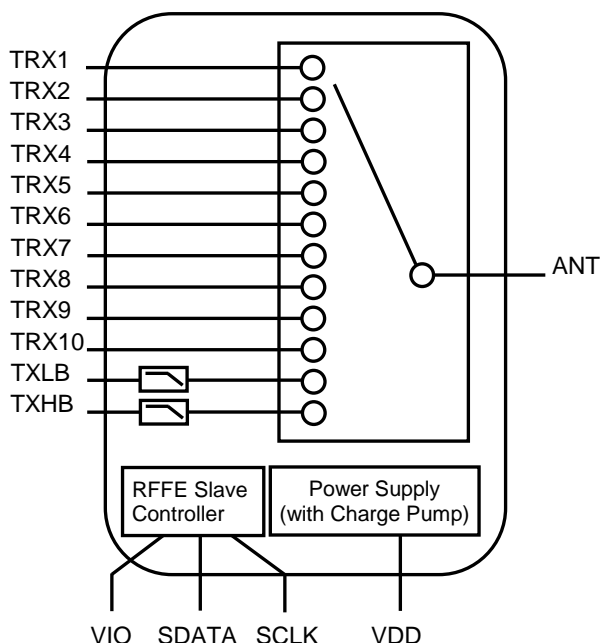
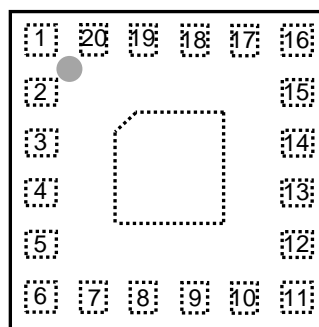

Figure 1. RMASMF496ATF03 Block Diagram
Figure 2. RMASMF496ATF03 Pin assignment
- The functional block diagram is shown in Figure 1. The pin assignment and package are shown in Figure 2. Signal pin assignments and functional pin descriptions are provided in Table 1.